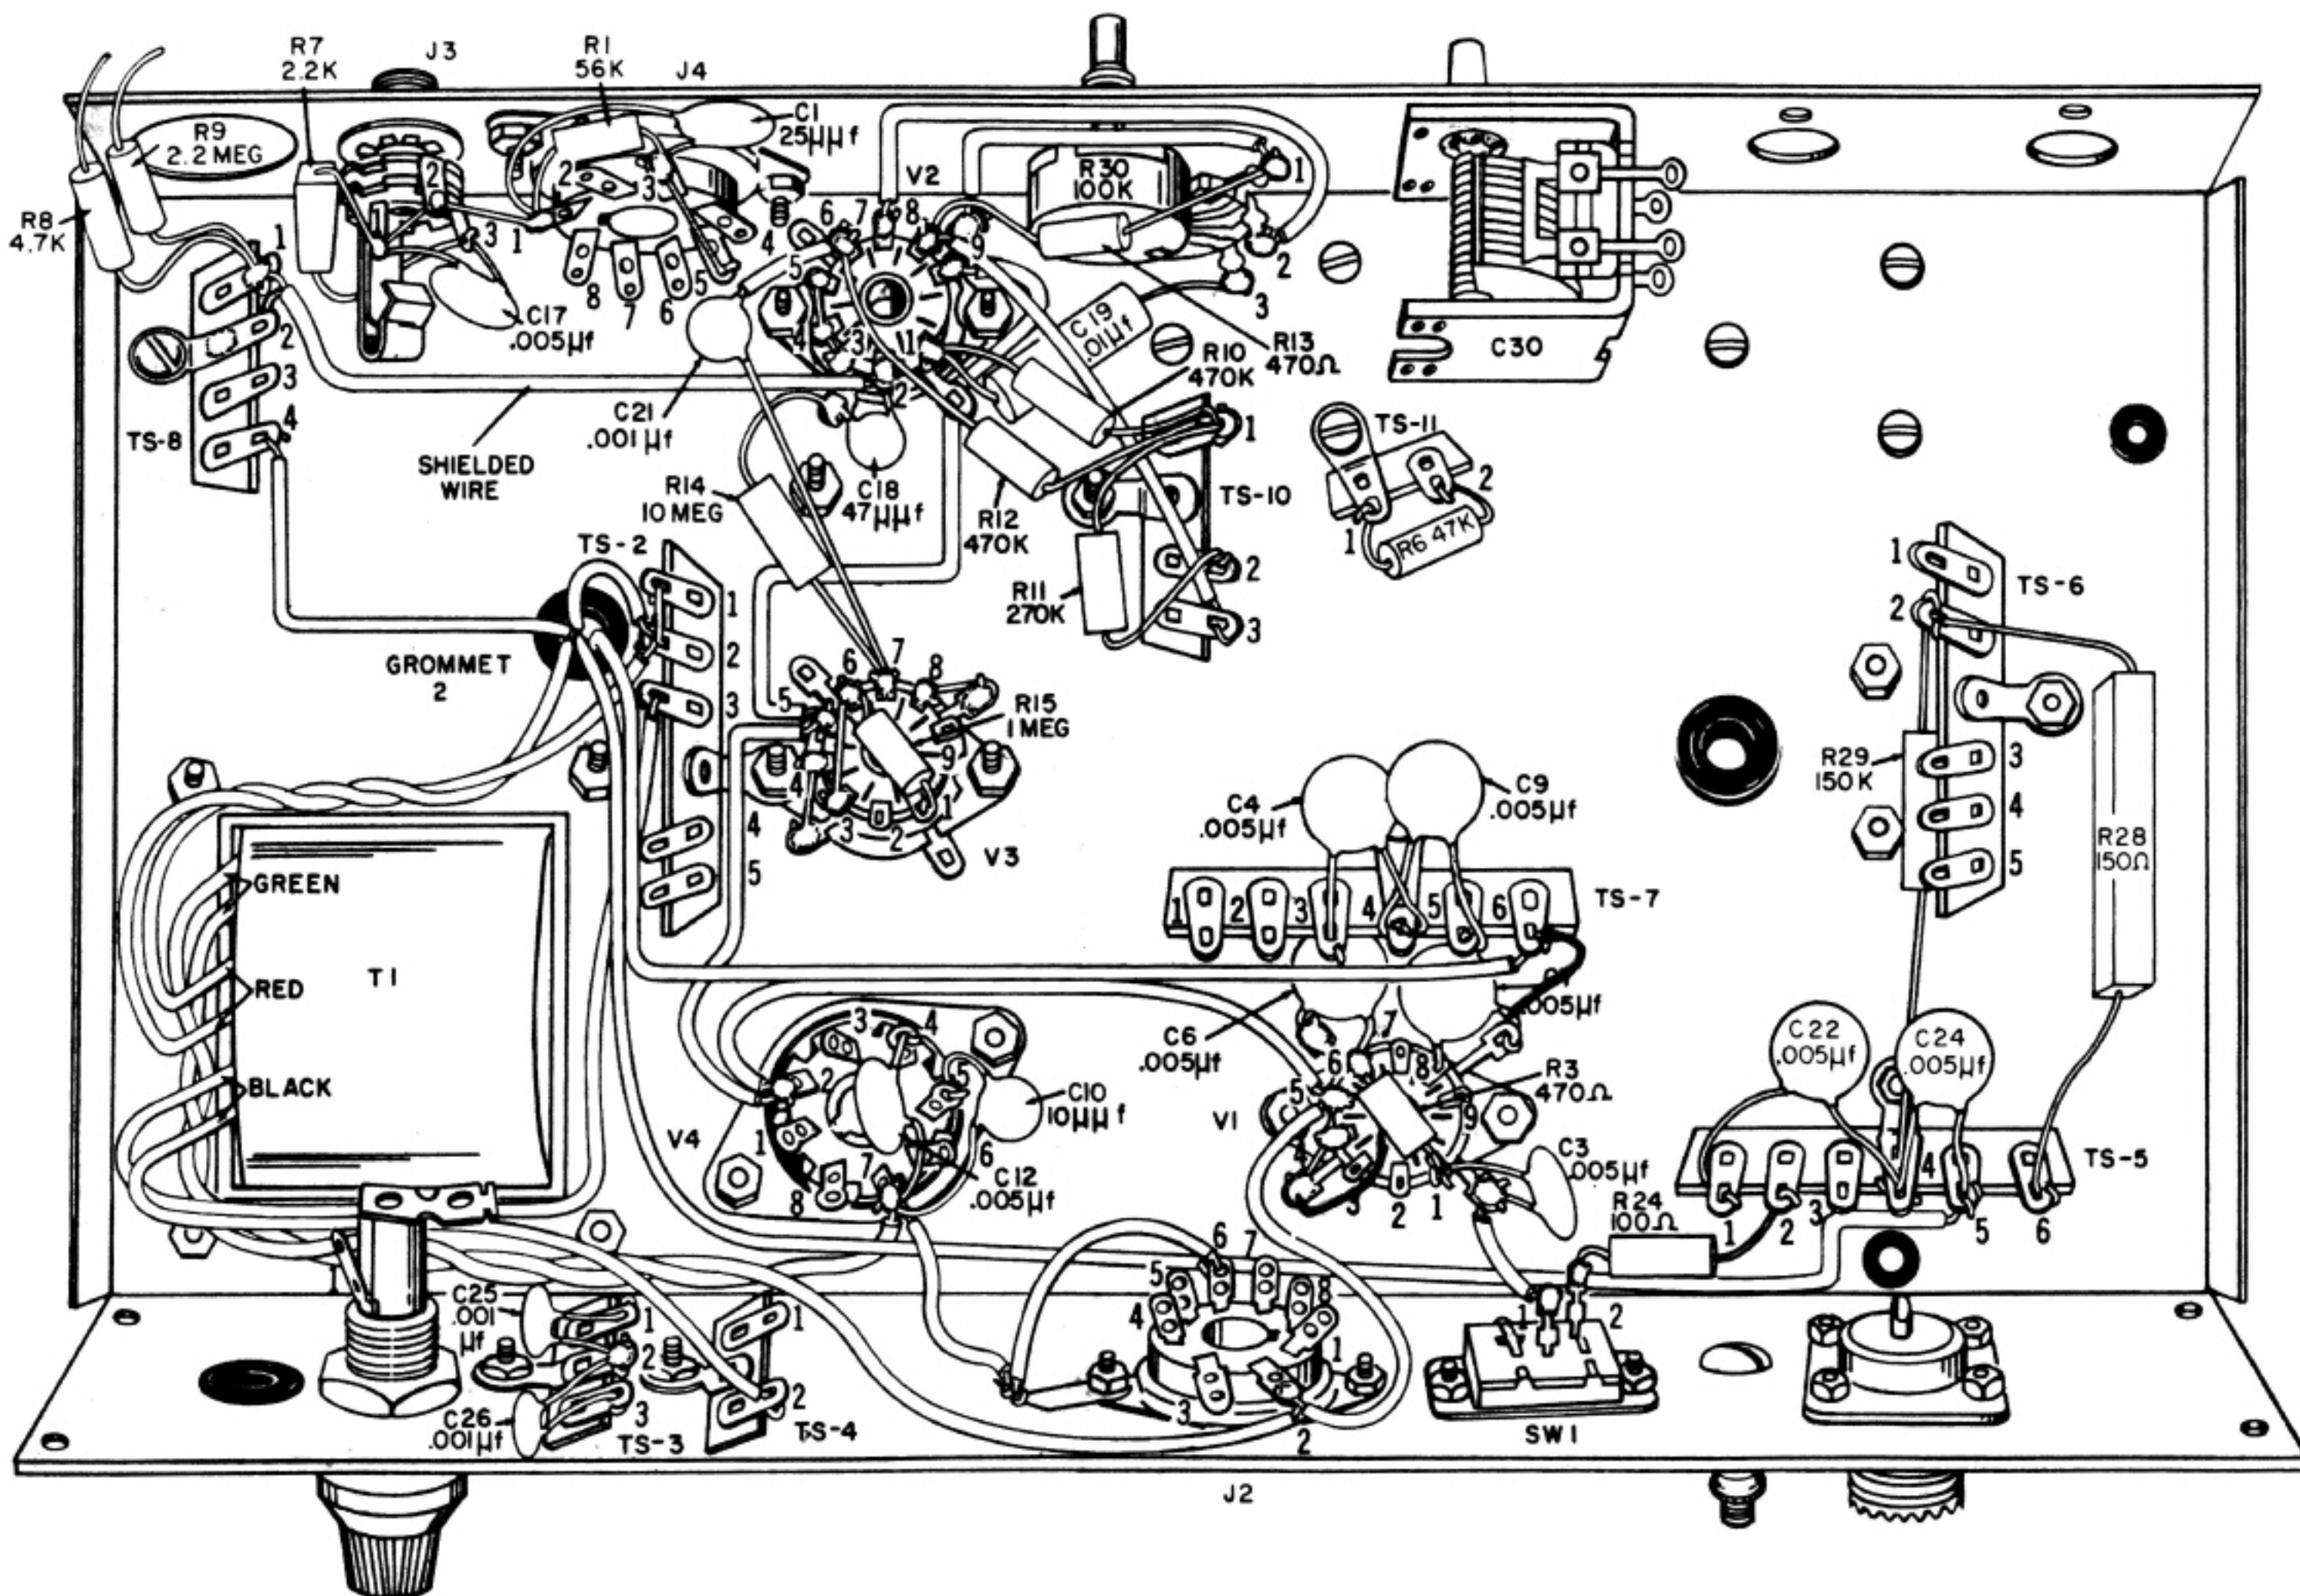

FIGURE 7
### SEE FIGURE 7
- ☐ Refer to Figure 7. Note position of wires on power transformer (T1). Twist the two green wires and route them along chassis bottom under the fuse holder, TS-3, and TS-4. Connect one wire to pin 2 of socket J2. Connect the other wire to pin 7 of V4.
- ☐ R28, 150 $\Omega$ , 10-watt resistor (square shaped). Connect one lead to terminal 2 of TS-6. Place the resistor body flush against the chassis as shown in Figure 7. Connect the other lead to terminal 6 of TS-5.
- ☐ White wire with blue tracer. Connect one lead to terminal 5 of TS-5. Route the other end along bottom of chassis as shown in Figure 7, over to grommet 2 and through the hole. This wire will be connected later.
- ☐ Twist together the red leads from power transformer T1 as shown in Figure 7. Connect one lead to terminal 2 of TS-2.
- ☐ Gray wire. Connect one end to terminal 6 of TS-7. Route as shown in Figure 7, and pass other end through grommet 2. This wire will be connected later.